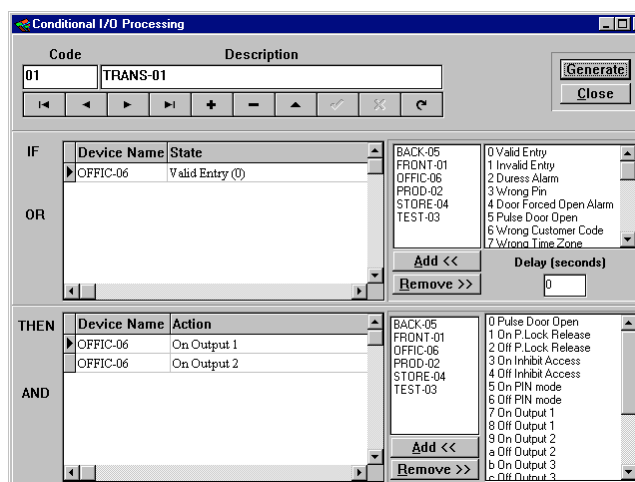

Figure 7.1A : Conditional I/O Processing.
- When done, your screen should look like figure 7.1A.